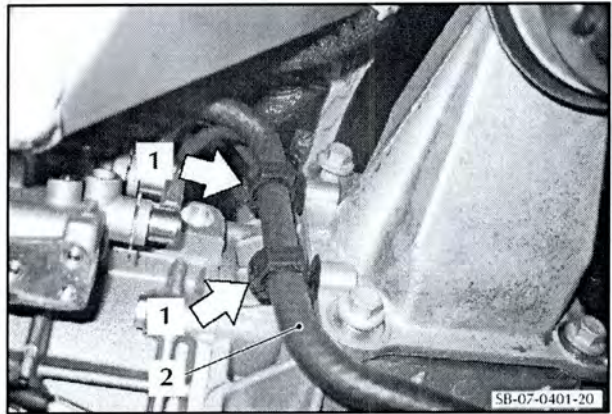

Figure 19
29. Release the reservoir hose (1) from the two clips (2) that attach it to the left side mount bracket (refer to Figure 19).